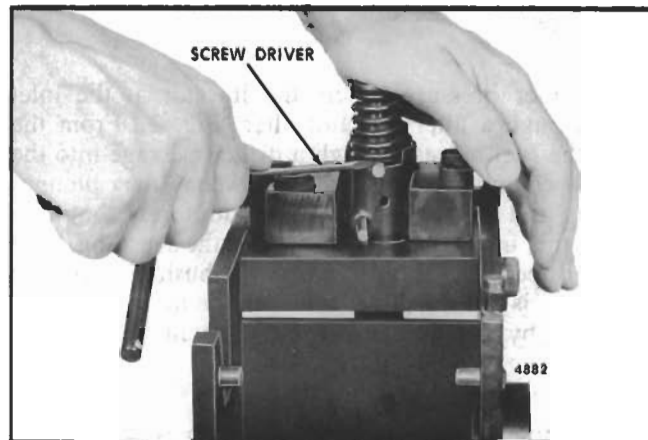

Fig. 9 - Removing Injector Follower Stop Pin
2. Compress the follower spring. Then raise the spring above the stop pin with a screw driver and withdraw the pin (Fig. 9). Allow the spring to rise gradually.